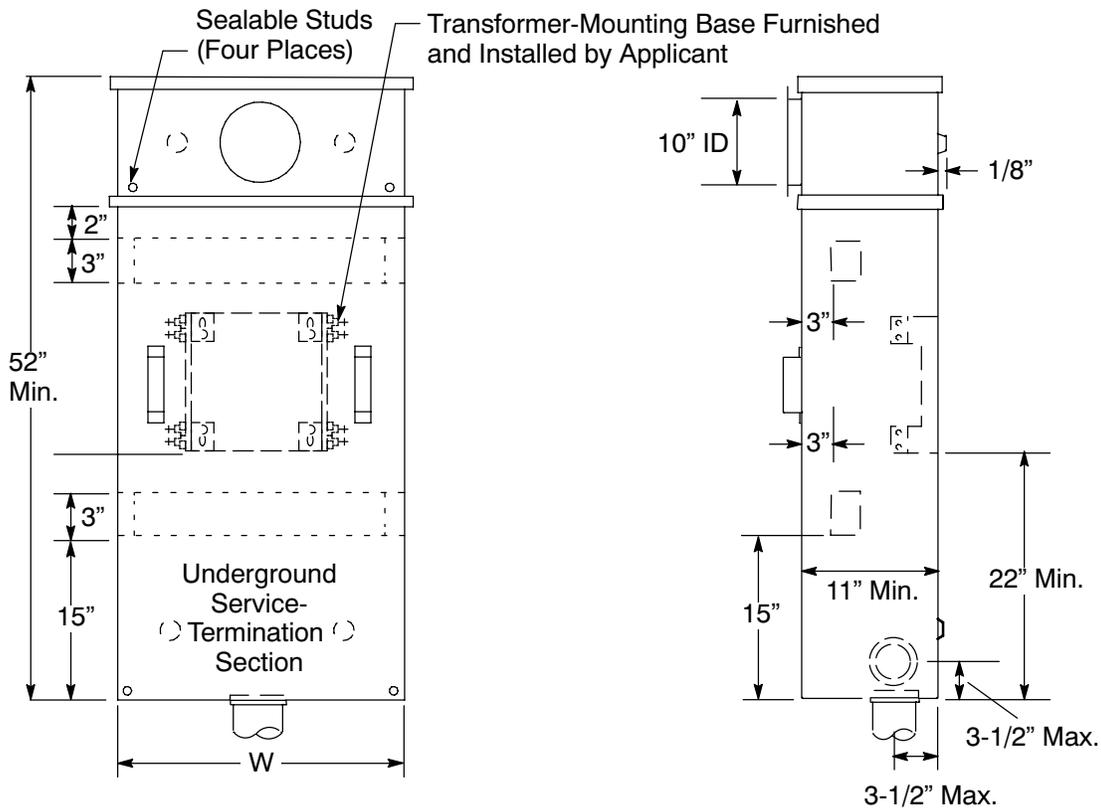

Figure 7-3
1. When planning a single, underground, commercial or industrial, three-phase service, applicants must furnish, install, own, and maintain combination meter and current-transformer cabinets, as illustrated in Figure 7-3, “Combination Meter and Current-Transformer Cabinet, Three-Phase Service, 201 Amperes Through 400 Amperes,” on Page 7-6.